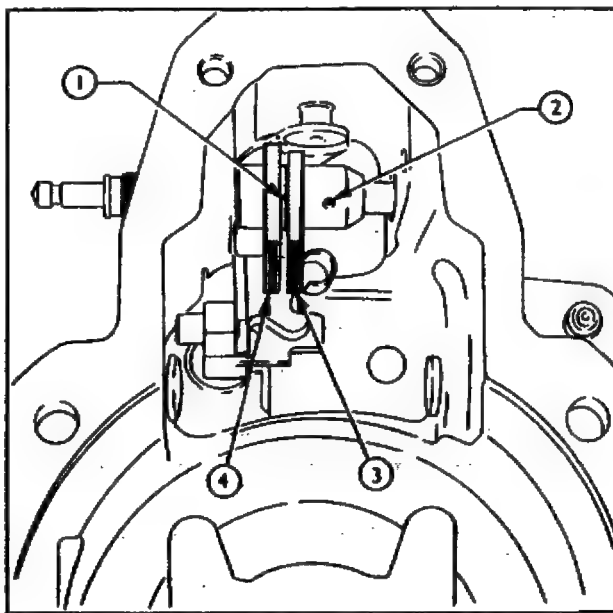

Fig. 26
6. Align the holes in the maximum fuel stop bell crank and the excess fuel device spindle and carefully tap the tension pin into position (see Fig. 26).